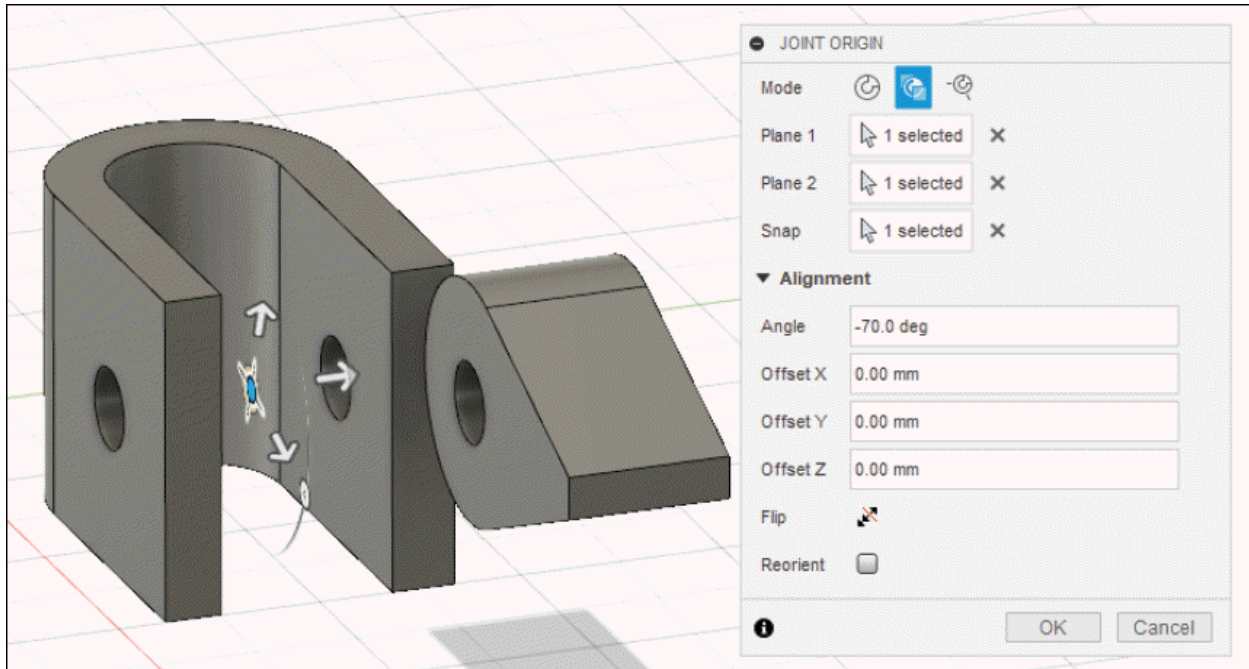

Figure-32. Specifying the location of snap
- On selecting the snap point, the **JOINT ORIGIN** dialog box will be updated; refer to Figure-32.